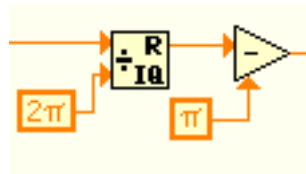

Figure 2.3: LabVIEW modulus and bias blocks
6. Add modulus and bias blocks, as shown in Figure 2.3, to measure *inverted pendulum angle*, defined as Equation 1.1.